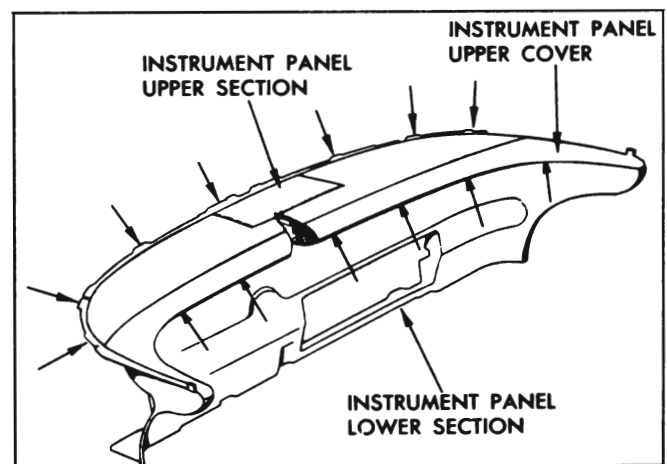

Figure 13-21—Instrument Panel Upper Section Attachment (60 Series)
4. To install, reverse removal procedure. See Figure 13-21.
The cover assembly consists of a vinyl covered sponge padding with integral attaching studs, which are positioned through an attaching bracket welded to the lower section of the instrument panel. The cover assembly is secured to the body by attaching nuts installed to the integral studs on the cover assembly, and by two (2) attaching bolts located on the front, outboard edge of the cover assembly. It is necessary to remove the upper section of the instrument panel to gain access to the cover attaching nuts. See Figure 13-21.